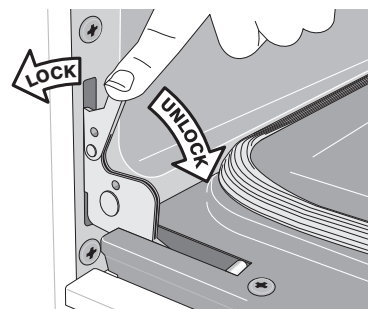

Figure 48: Door hinge locks
2. Pull the door hinge locks on both left and right door hinges down from the oven frame completely towards the oven door (See Figure 48). A tool such as a small flat-blade screwdriver may be required.
4. Push the door hinge locks up towards and into the oven frame on both left and right oven door hinges to the locked position (See Figure 48).